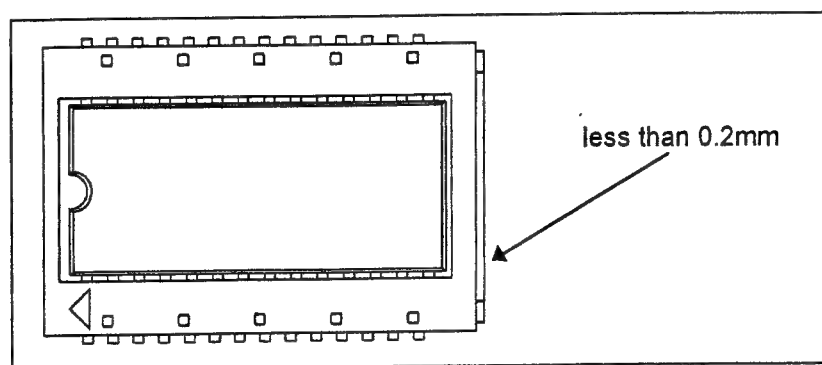

Fig. 4
4. After installation, check that the PROM Socket does not get out of the PROM Socket Cover more than 0.2mm as shown in figure 4.